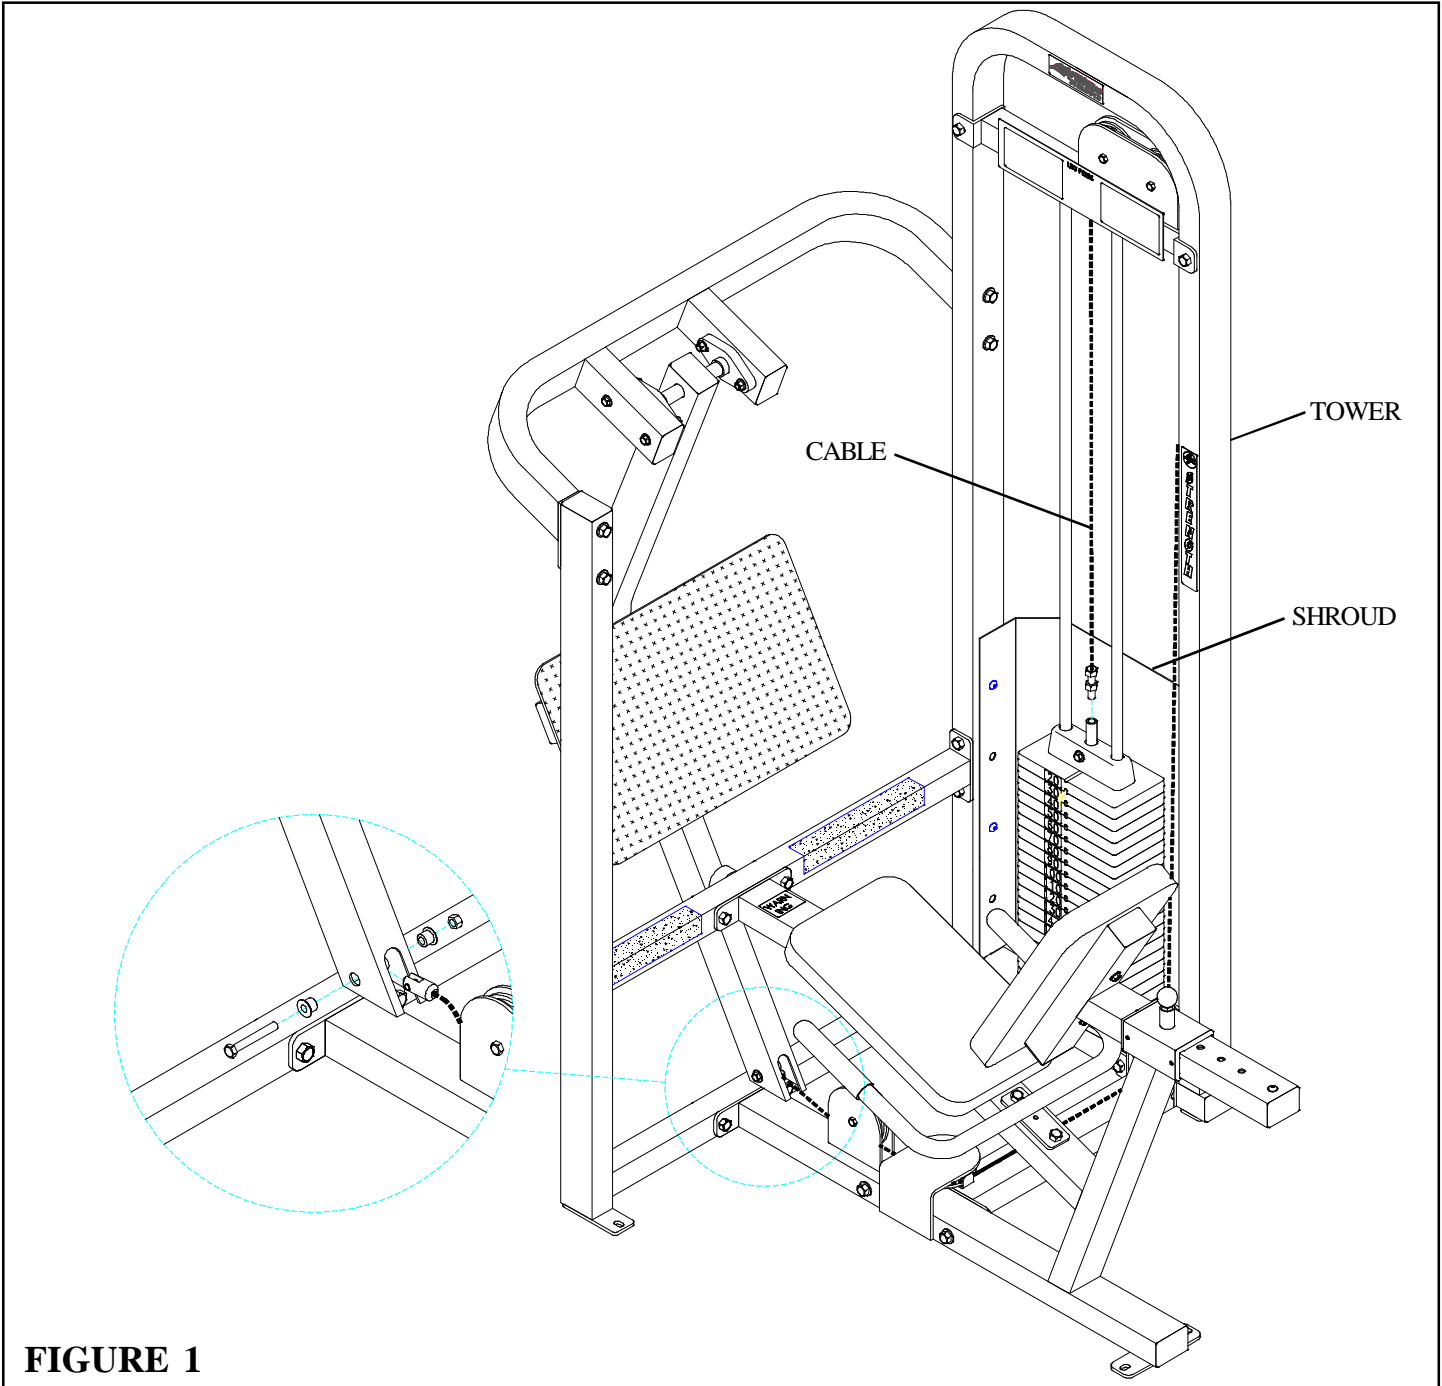

FIGURE 1
- Completely remove CABLE (68074) from the TOWER BRACE, LOWER CROSS SUPPORT, BENCH FRAME, and LEG PEDESTAL. See FIGURE 1. (NOTE: It may be necessary to loosen and remove some pulleys before removing the cable.)